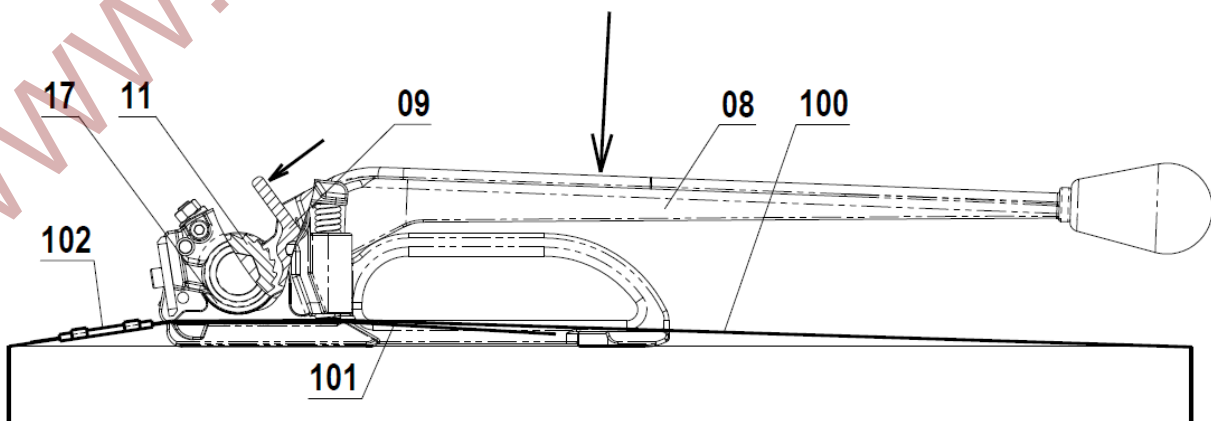

Fig. 4
3. Once satisfactory tension is achieved return **Tension Handle 08** back by pressing on **Tension Pawl 09**. Use appropriate sealer to close the **Seal 102**. With the **Seal 102** securely in place press the **Tension Handle 08** to remove the tensioner by sliding the backfoot out to the side followed by the front as shown on Fig. 4. The operation cycle is now complete.